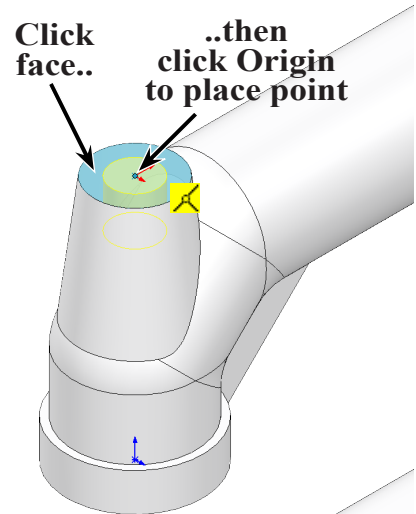

Fig. 37
Step 4. Click **top face of flag mount** one time as face for hole and click the **Origin**  to place the point, **Fig. 37**.